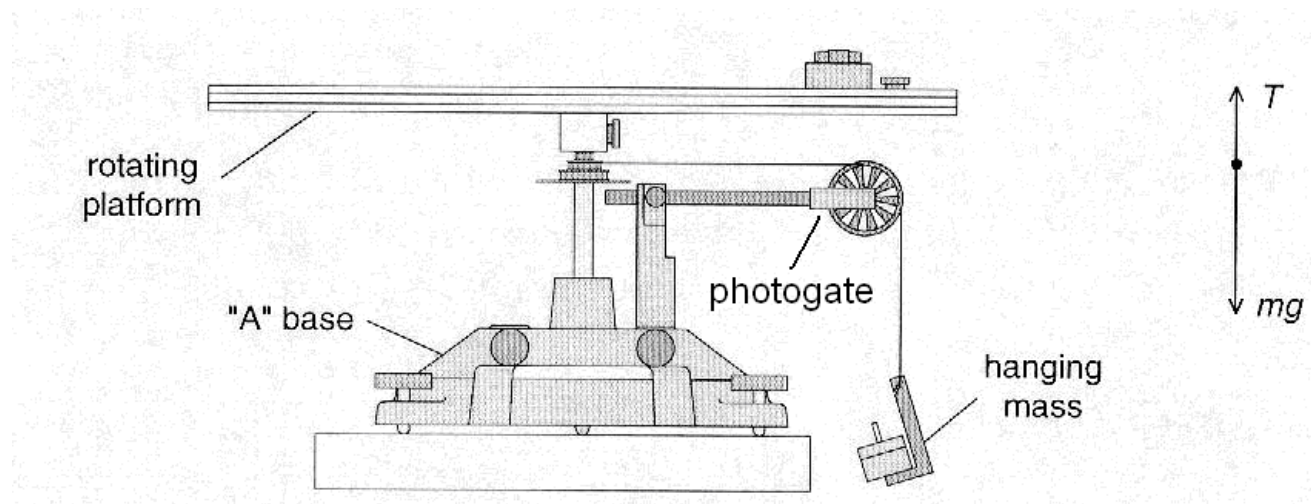

Figure 1 Apparatus
1. Consult the assembly diagram in Figure 1. Level the rotating beam by placing a spirit level on the rotating beam, and adjusting the thumb screws on the "A" base. Check two directions, at right angles to each other.
3. Mount the *Smart Pulley* and *Photogate* as shown in Figure 1. and connect it through the Power link interface to the USB port of a computer